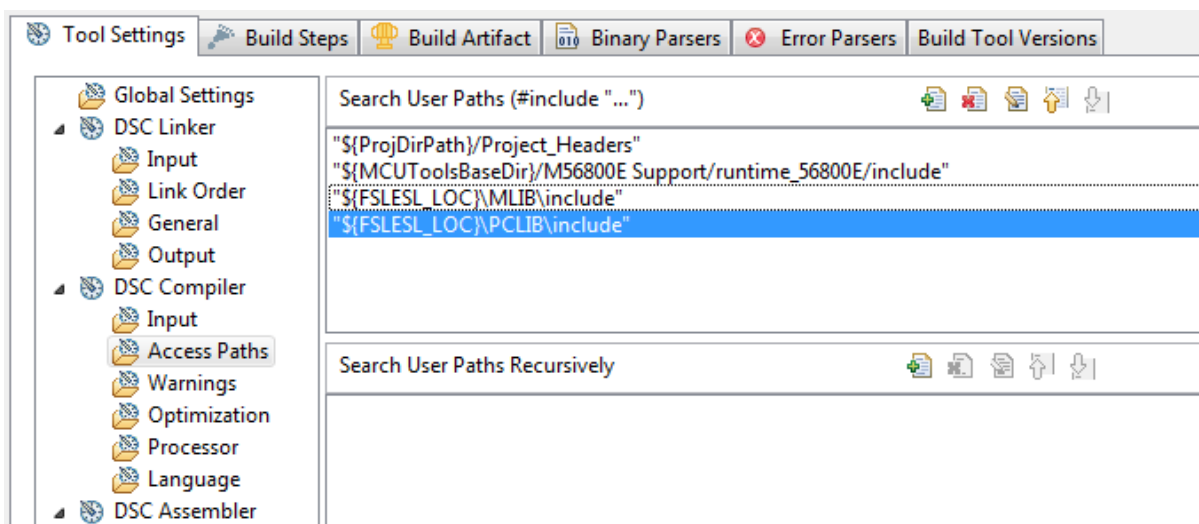

Figure 1-13. Compiler setting
14. Now you will see the added in the box. See Figure 1-13. Click OK.